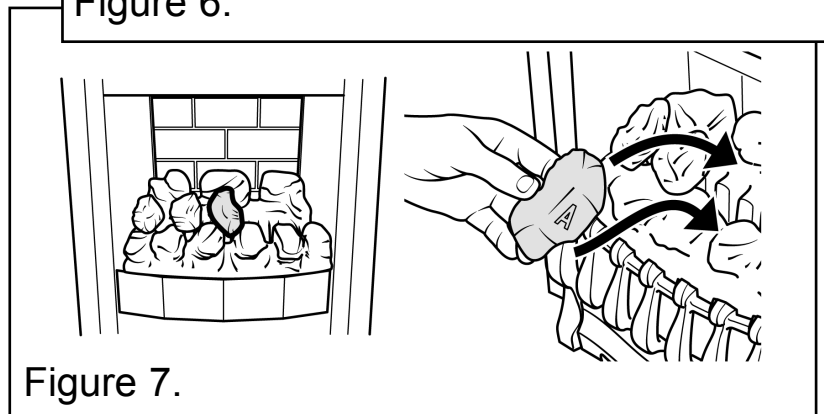

Figure 7.
5. Place a type “A” coal between the front and rear base coals with the letter “A” upright. The top of the coal should rest against the centre coal of the rear base coal as shown in figure 7.